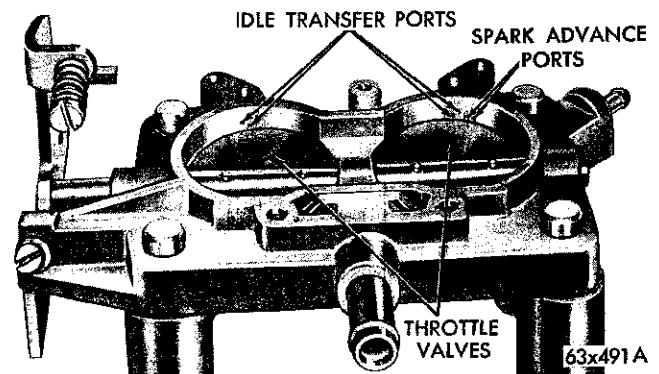

Fig. 9—Ports in Relation to the Throttle Valves
(1) During manufacture, the location of the idle transfer ports and the spark advance control ports to the valves are carefully established for one particular assembly (Fig. 9).
(2) If a new shaft should be installed in an old worn throttle body, it would be very unlikely that the original relationship of these ports to the valves would be obtained. Changing the port relationship